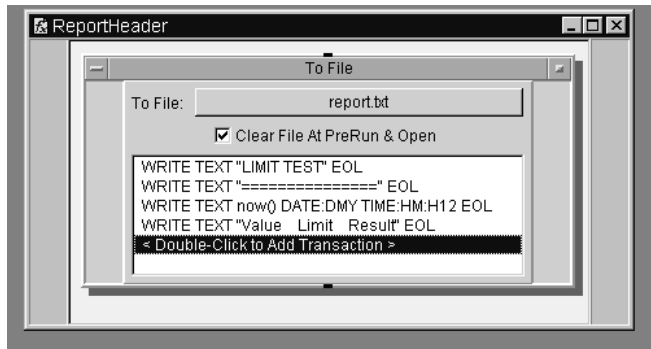

Figure 14.3. The ReportHeader UserFunction
9. Double-click on the ReportHeader UserFunction to open it; select a ToFile; program it as shown in Figure 14.3; delete the data-input terminals; minimize the ReportHeader UserFunction.